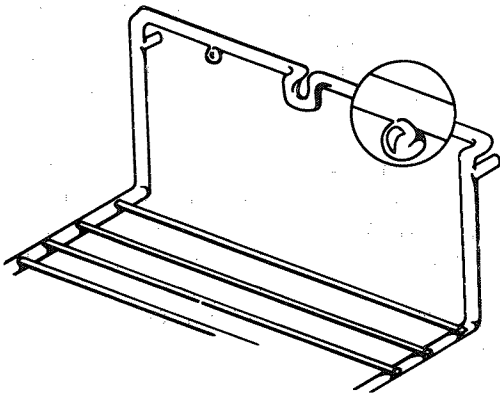

Figure 28
- f. Lock into place by pushing rack to left. Be sure round knobs are securely in place. See Figure 28.